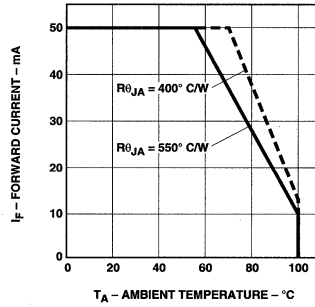

Figure 12. Maximum Forward Current vs. Ambient Temperature. Derating Based on $T_j \text{ Max} = 110^\circ\text{C}$.
- Derate linearly as shown in Figure 12.